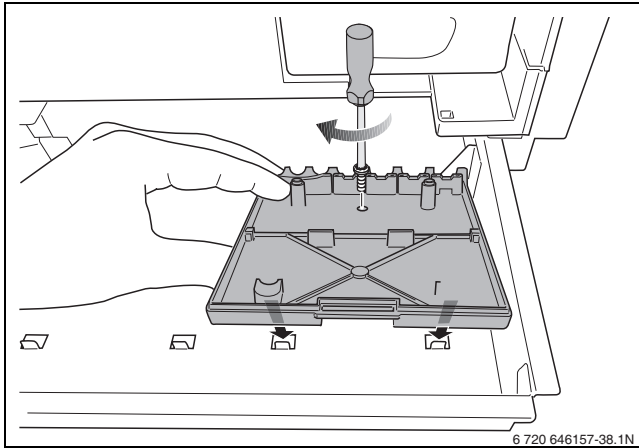

Fig. 41 Installing the wall bracket
- Install the wall bracket in the relevant slots in the drawer (→ fig. 41).